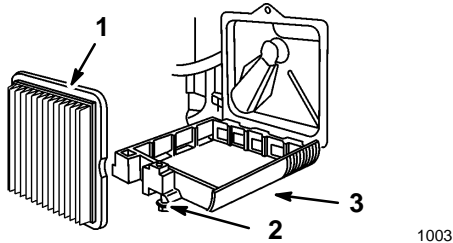

Figure 12
2. Loosen the screw securing the air cleaner cover (Fig. 12).
3. Tilt the cover down and clean it thoroughly (Fig. 12).
4. Remove the paper air filter and discard it (Fig. 12).
5. Insert a new paper air cleaner filter (Fig. 12).